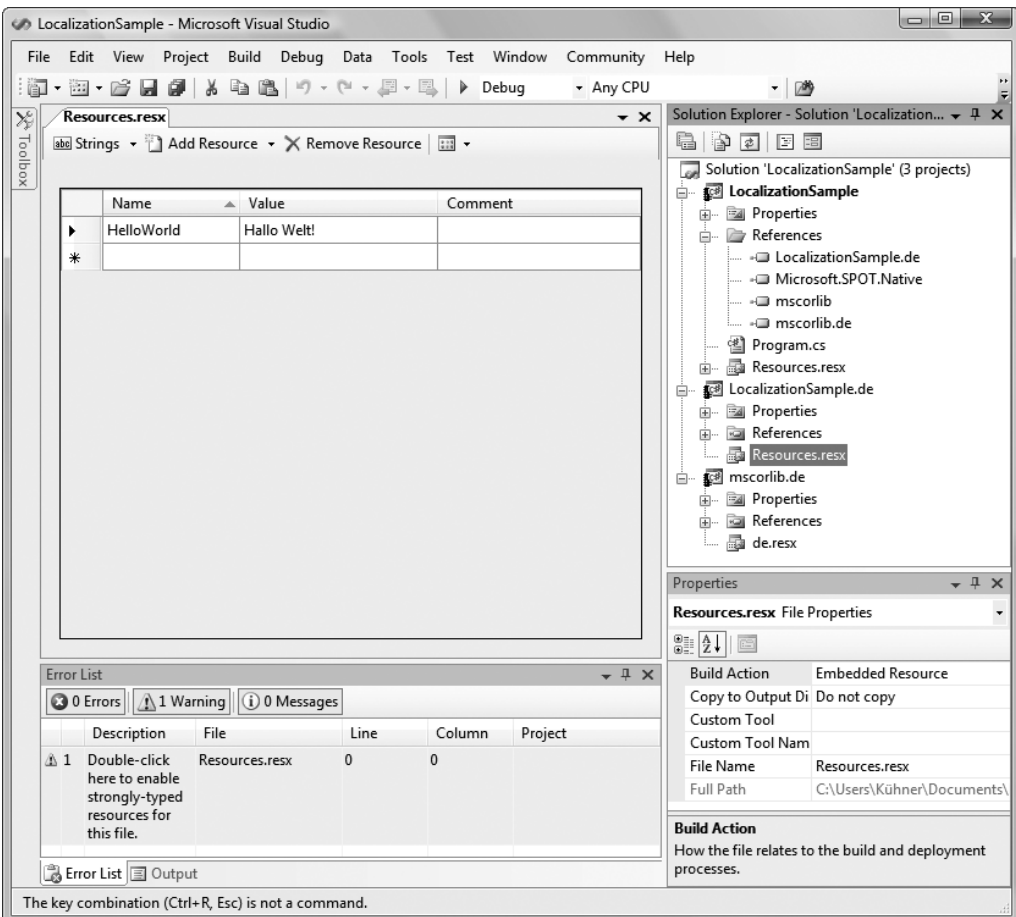

Figure 10-10. *The LocalizationSample project*
7. Finally, to be deployed, a satellite assembly must be referenced by the main application. If an application and satellite assembly are in the same solution, you can add a project reference; see Figure 10-10.